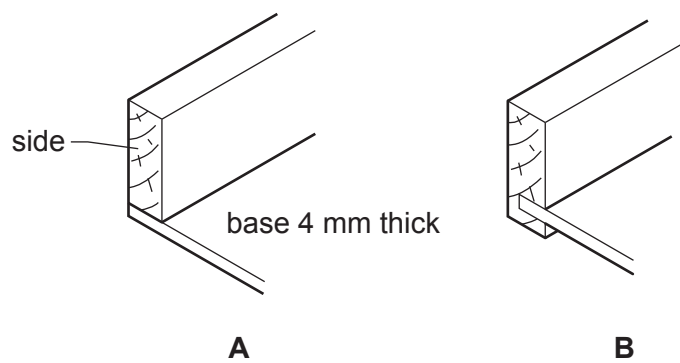

Fig. 12.4
- (e) Fig. 12.4 shows two methods, **A** and **B**, that could be used to fit the base to the sides of the pinball game.